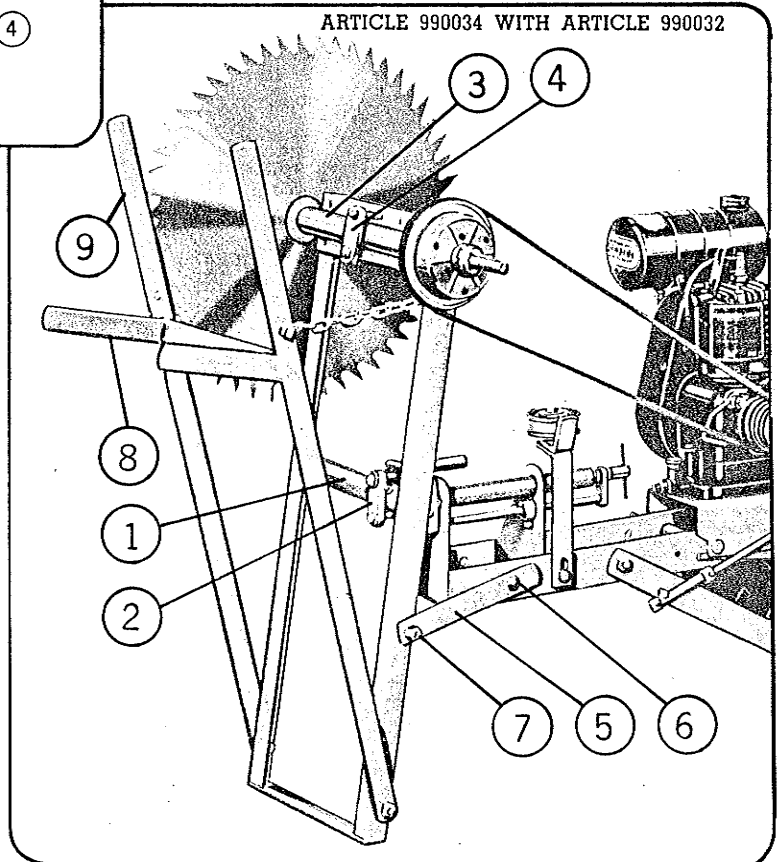

Figure 3 — Saw Mounted on Cradle
(See Figure 3)
2. Loosen arbor clamp bolts and remove arbor. Place cradle tube (1, Fig. 3) in arbor clamp (2, Fig. 3) keeping cradle as far to the right as possible and tighten clamp bolts. See Figure 3.
3. Place arbor (3, Fig. 3) in arbor clamp (4, Fig. 3) on top of cradle and adjust arbor pulley to line up with middle groove of engine pulley.
4. Remove cradle holder (5, Fig. 3) from cradle and attach to saw frame at (6, Fig. 3) and to cradle frame at (7, Fig. 3).
2. To use cradle place wood on support arms (8, Fig. 3). Move support arms past saw, being sure to keep hands to the right of the extension (9, Fig. 3), well away from the saw blade.